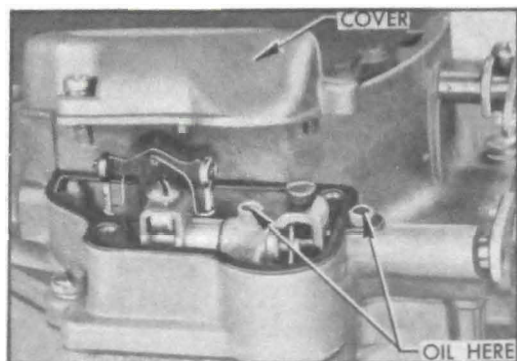

Figure 1-11—Countershaft Lubrication—Carter 4-Barrel
4. *Pump Operating Countershaft — Carter Carburetor Only.* On the 2-barrel carburetor, remove dust cover screws, apply several drops of engine oil in screw holes and install screws. On the 4-barrel carburetor, remove dust cover and apply oil in two oil holes above countershaft. See figure 1-11.